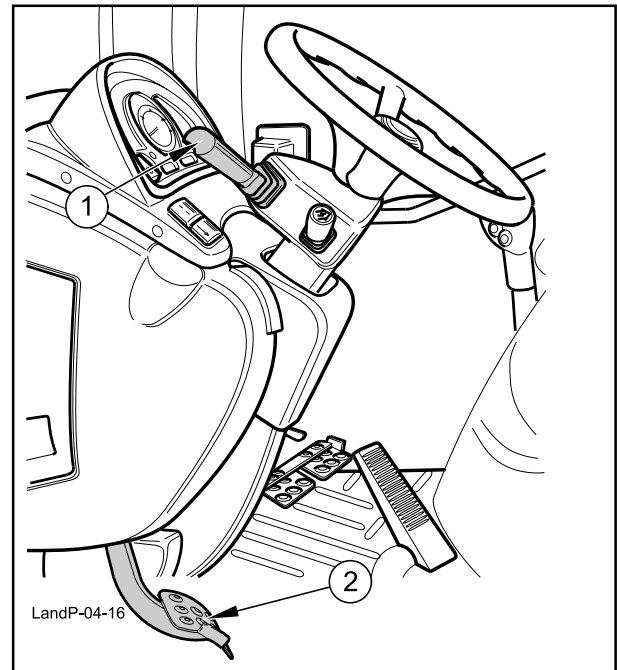

Fig. 4-21
The tractor's driving direction is automatically reversed by pushing the orange lever (1) at the left of the steering wheel forwards or backwards (Fig. 4-21).
- Completely depress the clutch pedal (2 - Fig. 4-21).
- Move the orange shuttle control lever (1) backward.